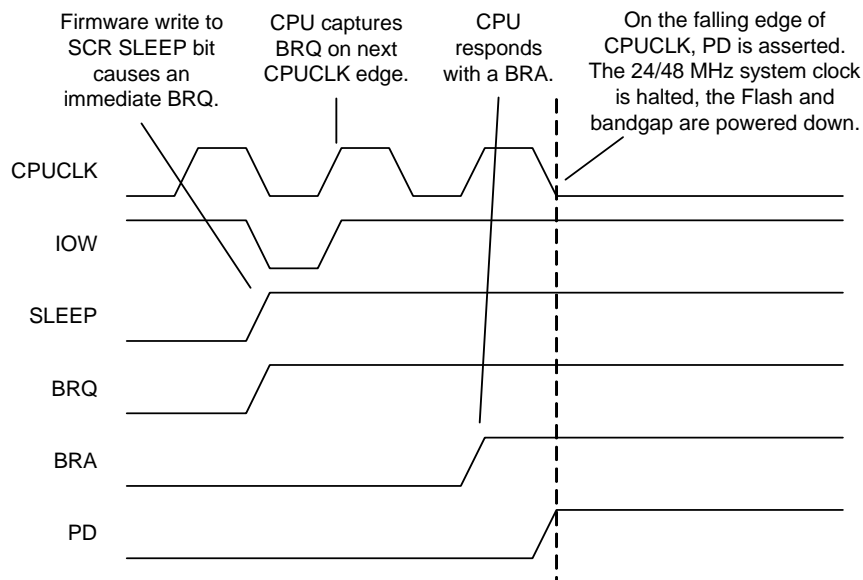

Figure 12-1. Sleep Sequence
The SLEEP bit is an input into the sleep logic circuit. This circuit is designed to sequence the device into and out of the hardware sleep state. The hardware sequence to put the device to sleep is shown in Figure 12-1 and is defined as follows.
3. The sleep logic waits for the following negative edge of the CPU clock and then asserts a system-wide Power Down (PD) signal. In Figure 12-1, the CPU is halted and the system-wide power down signal is asserted.